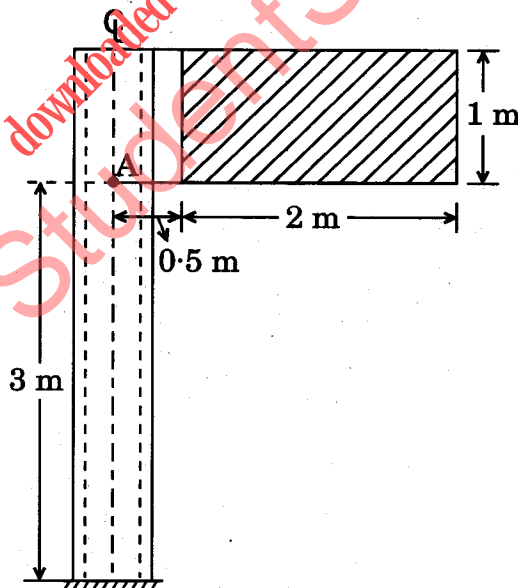

Figure 3
- Q2. (a) A steel tube is to be used as a post for a road sign board as shown in Figure 3. The maximum wind pressure on the sign board is  $1960 \text{ N/m}^2$ . The angle of rotation of the tube at the bottom of the sign board marked as A must not exceed  $4^\circ$  and the maximum shear stress (due to torsion only) must not be greater than  $38 \text{ MPa}$ . Determine the mean diameter of the tube if the wall thickness is  $4.2 \text{ mm}$ . Take  $G = 70 \text{ GPa}$ . Assume wind is transmitting only over the sign board portion.